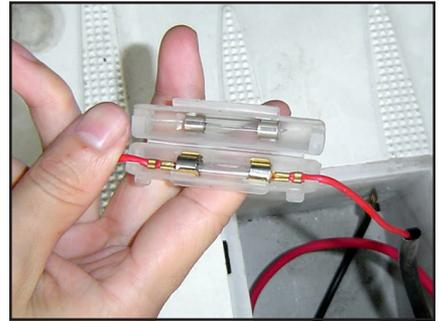

Fig. 28
- Slide the spare fuse holder over the end of the fuse block and open the fuse block. (See Fig 28)